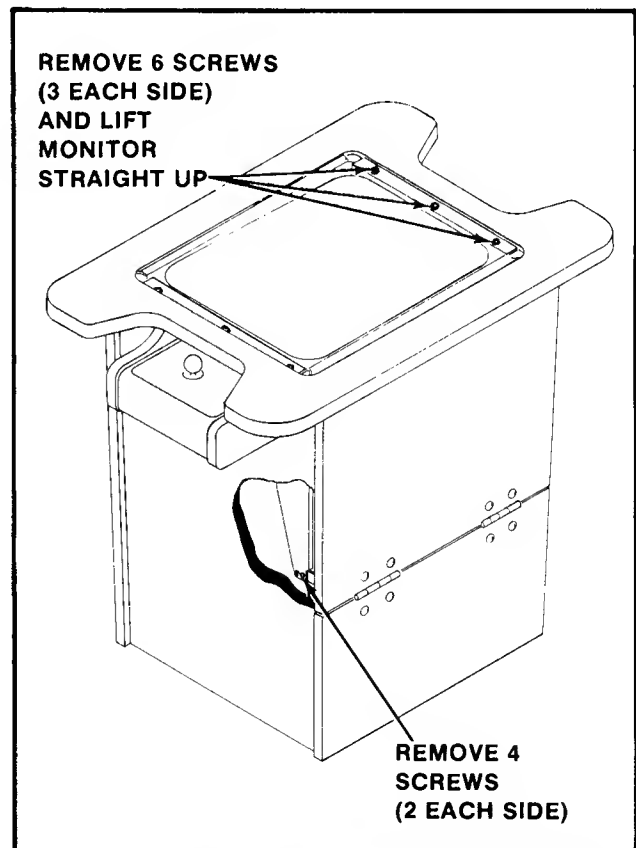

Figure 4-11 Removing the Monitor — Cocktail
### 3. COCKTAIL TABLE MODEL: (See Figure 4-11).
- ☐ Remove the screws holding the T.V. monitor chassis to the "L" by the door hinge(s). See Figure 4-11.
- ☐ Remove the screws which secure the T.V. monitor mounting brackets to the edges of the slot cut in the table top. See Figure 4-11.